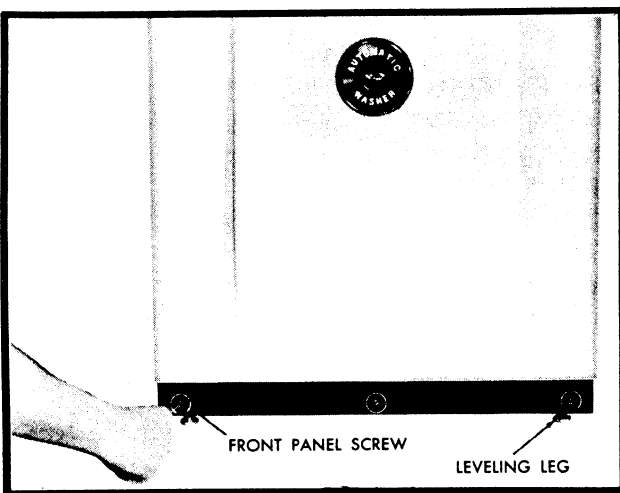
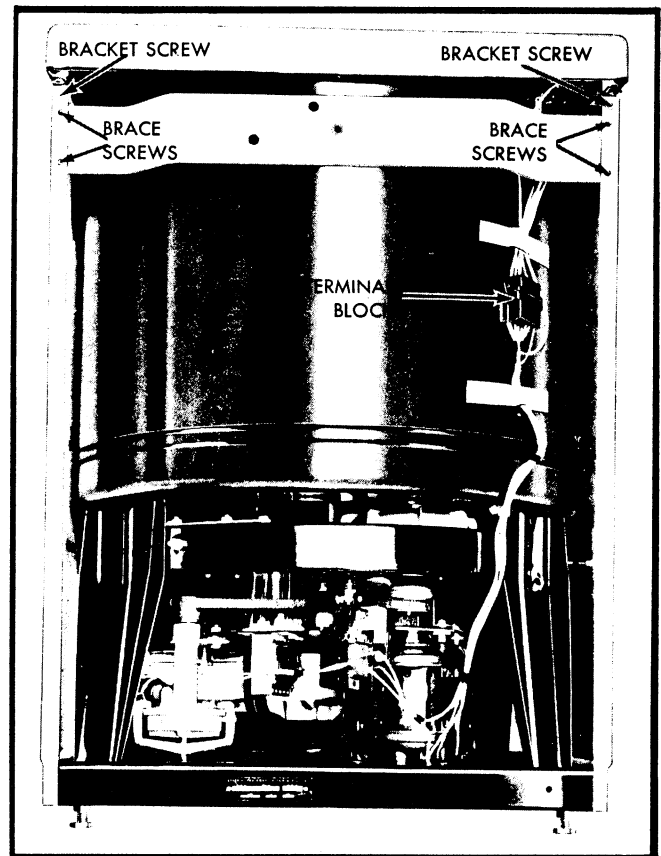
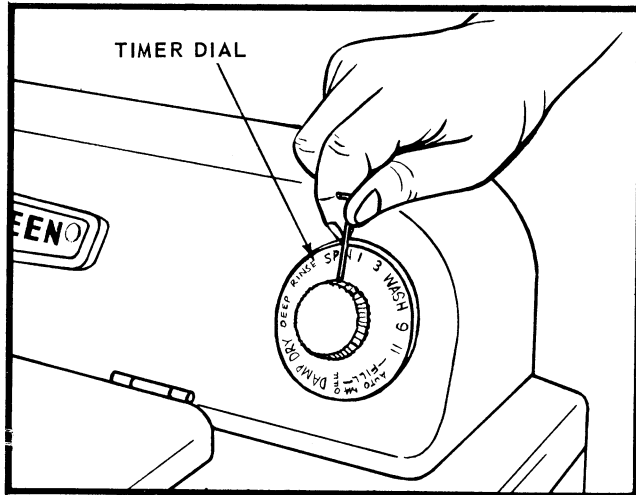

Figure 1—Removing Front Panel
Figure 2—Front Panel Removed
Figure 4—Loosening Set Screw in Timer Dial
The front panel on the early model washers is removed by first taking out the three self-tapping screws located at the bottom of the panel, *Figure 1*. Now, while pulling slightly outward on the bottom of the panel, raise the panel upward and outward to clear the top cross brace, *Figure 2*. The panel may now be lowered for removal. *Figure 2* shows the washer with the front panel removed and the various components which can now be serviced.
To remove the cabinet top on the early style washers, first remove the front panel and then the two bracket screws shown in *Figure 2*. Then loosen the set screw in the timer and lift the dial off of the timer shaft, *Figure 4*. The set screw is an Allen screw and requires a $\frac{5}{64}$ " Allen wrench to loosen it.
Separate the wiring harness at the terminal blocks, shown in *Figure 2*, and remove the tape securing the top portion of the wiring harness to the collector tub. The cabinet top can now be lifted completely off of the cabinet.
3. On Shur-Fil models, the control panel screws, *Figure 1*, must be removed and the control panel assembly lifted off of the panel support.